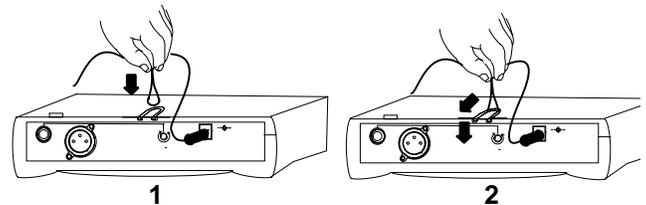

FIGURE 7. AXR4N POWER CABLE RETAINER
- Plug one end of the AC power adapter into the DC INPUT connector on the back of the receiver. **AXR4N:** Loop the power cable around the cable retainer on the bottom of the receiver. See Figure 7. Plug the other end into an AC power source (use PS20 for 105–125 VAC). The green POWER light on the receiver will glow.